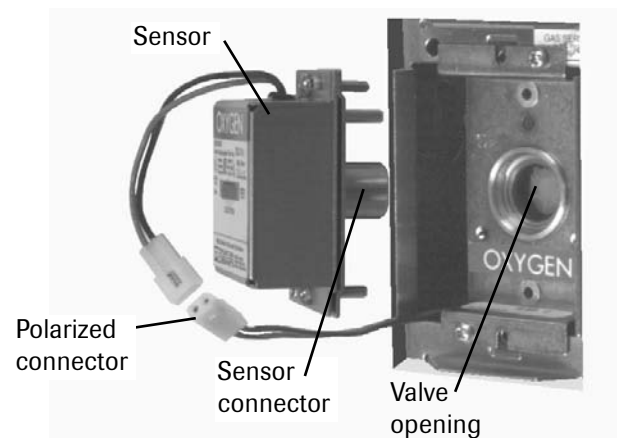

Figure 15
2. Join the polarized connector in the mounting box to the mating connector on the sensor. Refer to **Figure 15**.